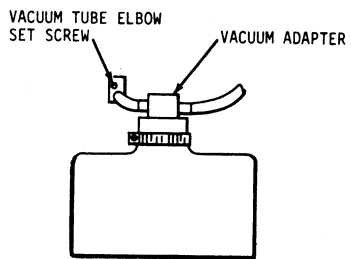

Figure 6-11. Removal of Vacuum Tube Adapter
- e. Using a .50 Allen wrench , LOOSEN set screw in vacuum tube adapter elbow located on underside of mainframe , figure 6-11 . Remove elbow from sleeve Prop open hopper using about one inch of cards inserted at a right angle .